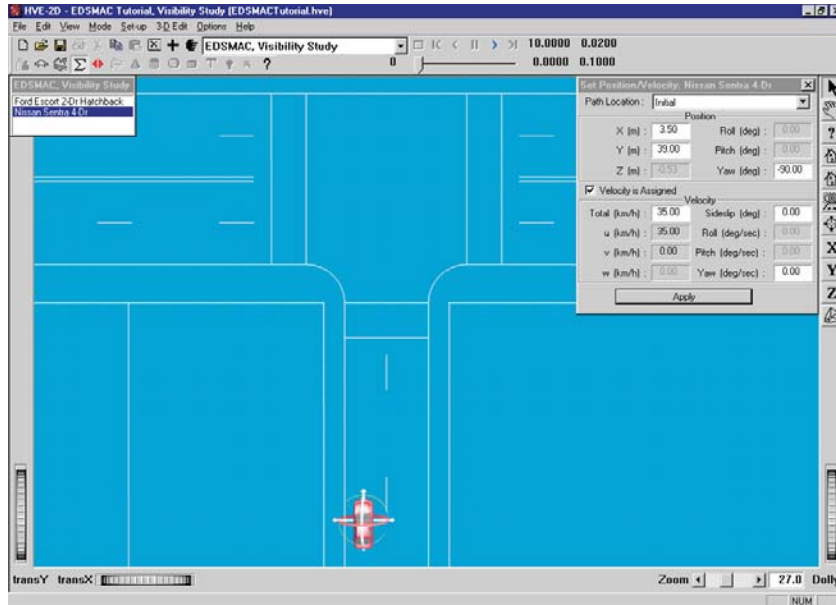

Figure 5-7 Positioning the Nissan Sentra using the Event Editor. The manipulators can be used to *drag and drop* the vehicle into position.
- Click on the vehicle's X-Y manipulator (see Figure 5-7), wait for it to turn bright yellow (indicating it has been selected), and drag it to its initial position, X=3.5 m, Y=39 m. Click the yaw manipulator and rotate it to its heading angle, -90 degrees.